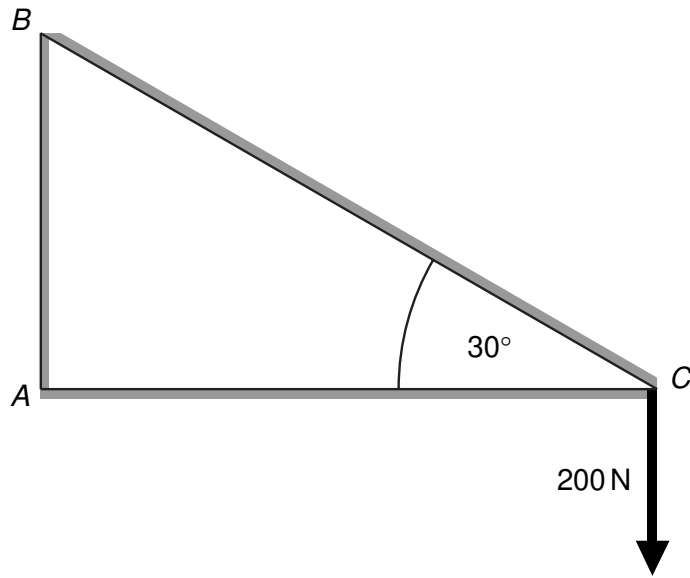

Fig. 2
- (d) Fig. 2 represents a corner of the trailer frame. Use graphical means to determine the forces acting in the frame and show the nature of the forces in each member.